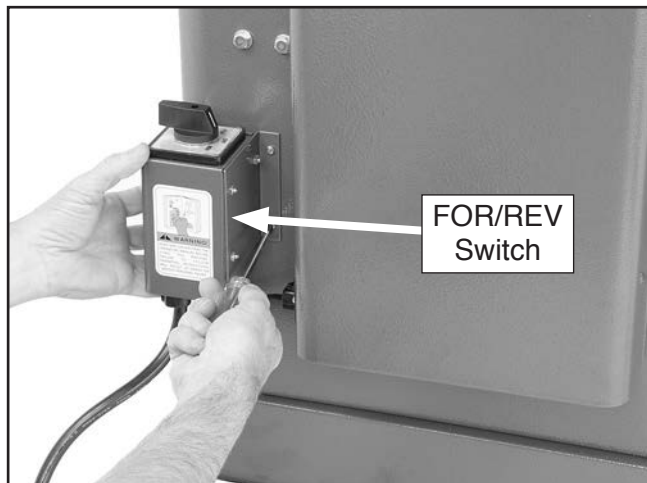

Figure 11. Securing FOR/REV switch to cabinet.
7. Mount the FOR/REV switch to the cabinet, as shown in **Figure 11**, using the screws already mounted in the cabinet at that location.